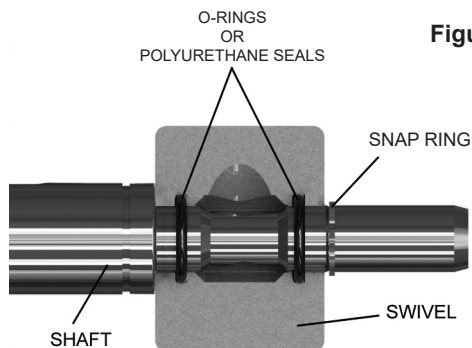

Figure 9
5. Remove the arm (43). For this, it is necessary to unscrew the bolts (14 & 18), the bolt (46), and remove the washers (44 & 45).
6. It will be necessary to loosen or remove the upright (3) for the next step.
7. Remove the snap ring (42) and pull the swivel off of the shaft.
8. Remove the worn o-rings (low/medium pressure reels) or polyurethane seals (high pressure reel). Clean the swivel and shaft. Inspect for wear and damage. Install new o-rings/seals in the swivel (see figure 9). Grease the o-rings/seals.